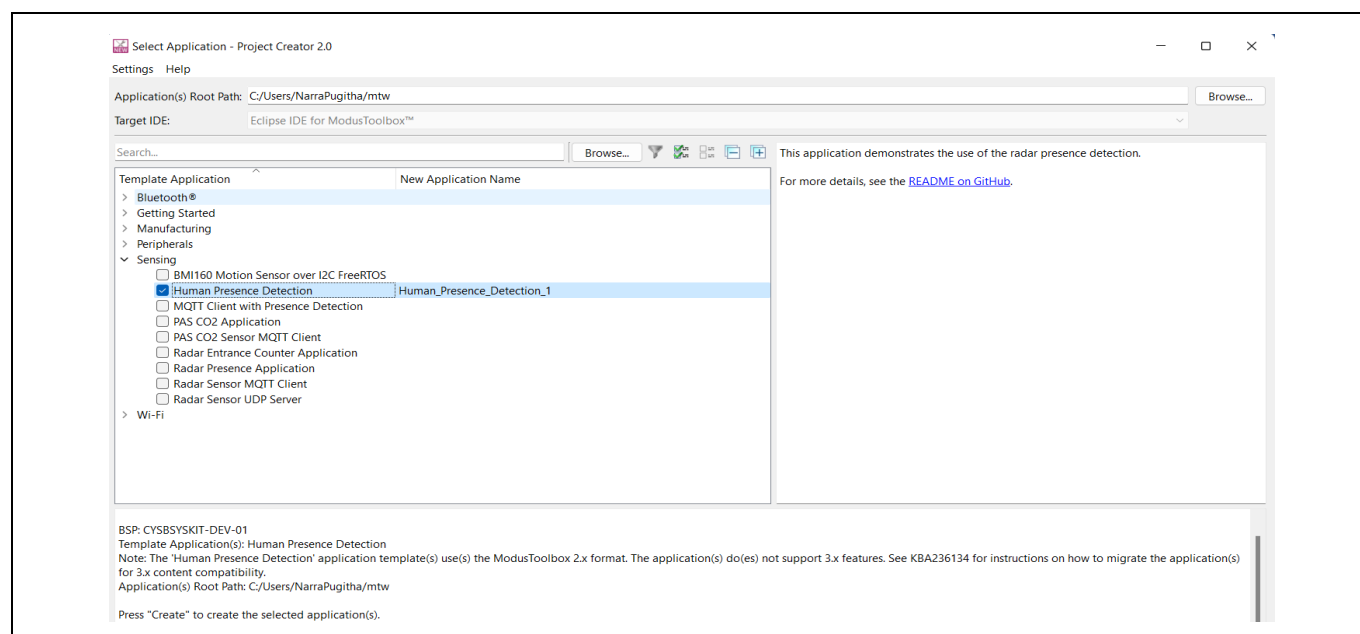

Figure 9 Selecting the application
- Now select the **Human Presence Detection** application from **Sensing** drop down as shown in the Figure 9 and click **Create**.